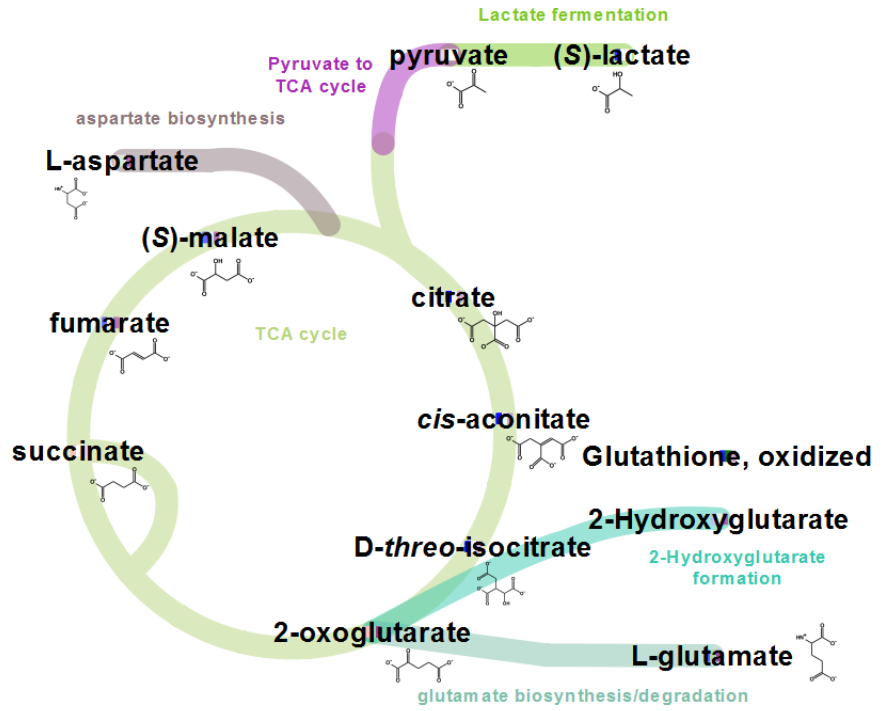

Figure 139 Network diagram after adjusting the metabolite labels and adding chemical structures
- u Click the **Network View Mode**  button from the toolbar to disable editing mode and view your network diagram (Figure 139).